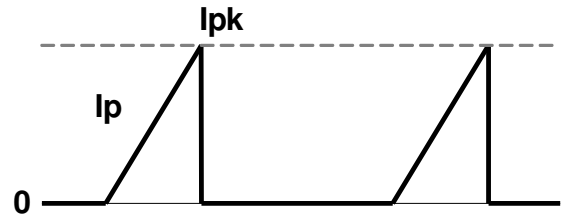

Figure 3: Primary Current Waveform
A current sense resistor (R_S) is used to sense the primary current I_p(t) (see Figure 3). The current rises linearly at a rate shown in Equation (1):